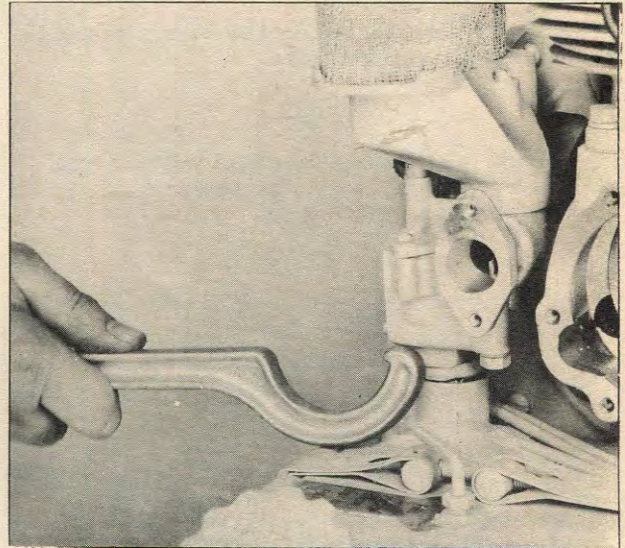

Figure 11 - Removing Carburetor
(f) Remove carburetor by prying loose with spanner No. 19439. (See figure 11.) Cover up carburetor fitting on top of fuel container to prevent foreign matter from falling in container. (For instructions on dismantling carburetor, see following paragraph (3).)